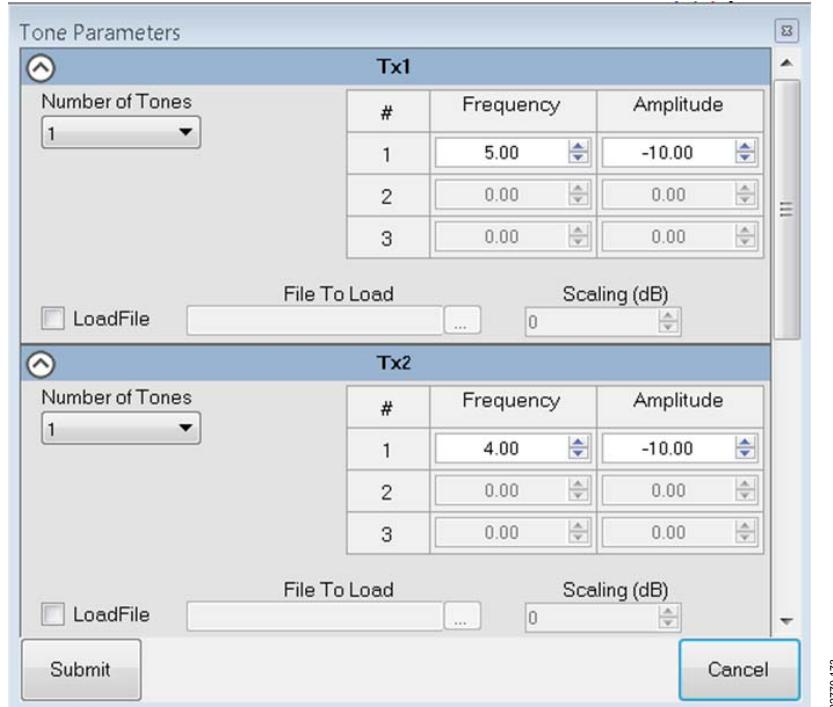

Figure 173. Tx **Tone Parameters** Setup Menu
- A single tone from the internal NCO can be generated on each channel by the evaluation system using the **Tone Parameters** menu shown in Figure 173. This window is accessed by pressing the **TONES** button near the upper left of the **Transmit** page. In that window, the user can enable the tone (**Number of Tones** = 0 to 3) to be transmitted on the selected Tx output.